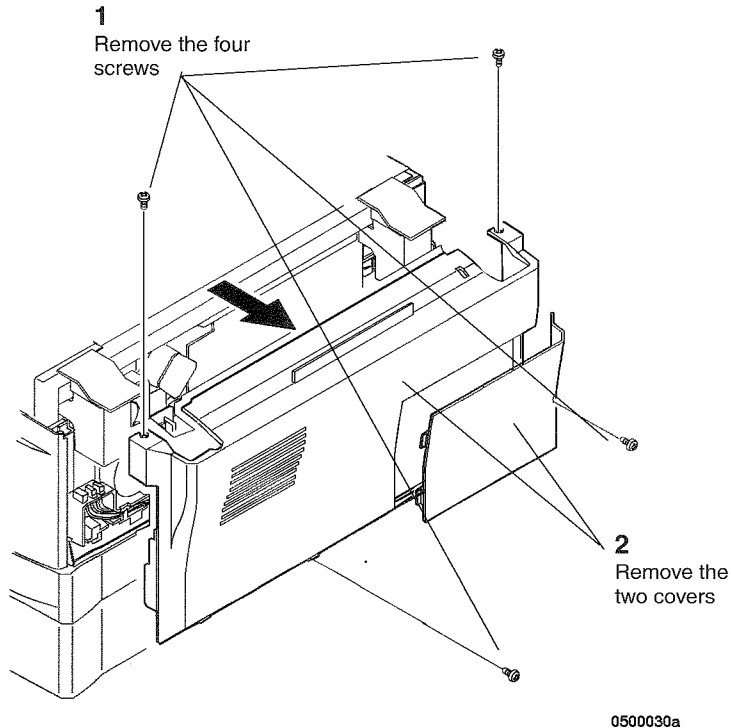

Figure 1 Removing the Covers
2. ( Figure 1): Remove the Rear Cover and the Access Cover.